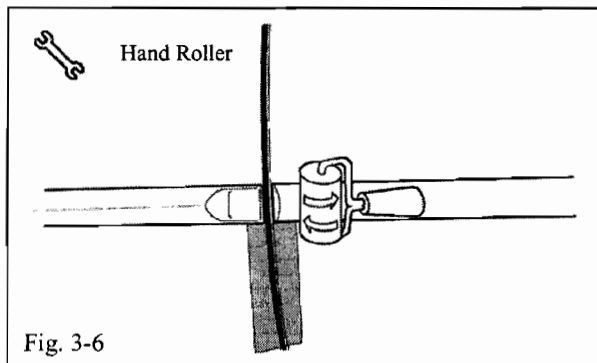

Fig. 3-6
- ⚠** (d) Using the hand roller, roll around the perimeter of the parts with a firm pressure to ensure complete adhesion of the acrylic foam tape to the door surfaces. (Fig. 3-6)